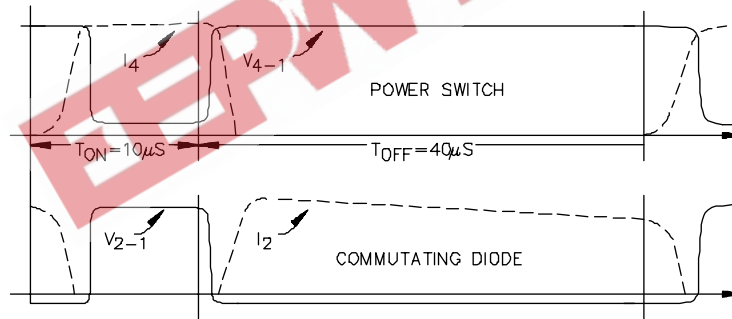

FIGURE 2 - SM600/601/602 SWITCHING WAVEFORMS
- Note 4. In switching an inductive load, the current will lead the voltage on turn-on and lag the voltage on turn-off (see Figure 2). Therefore, Voltage Delay Time ($t_{DV} \cong t_{di} + t_{ri}$) and Current Storage Time ($t_{si} \cong t_{sv} + t_{iv}$).